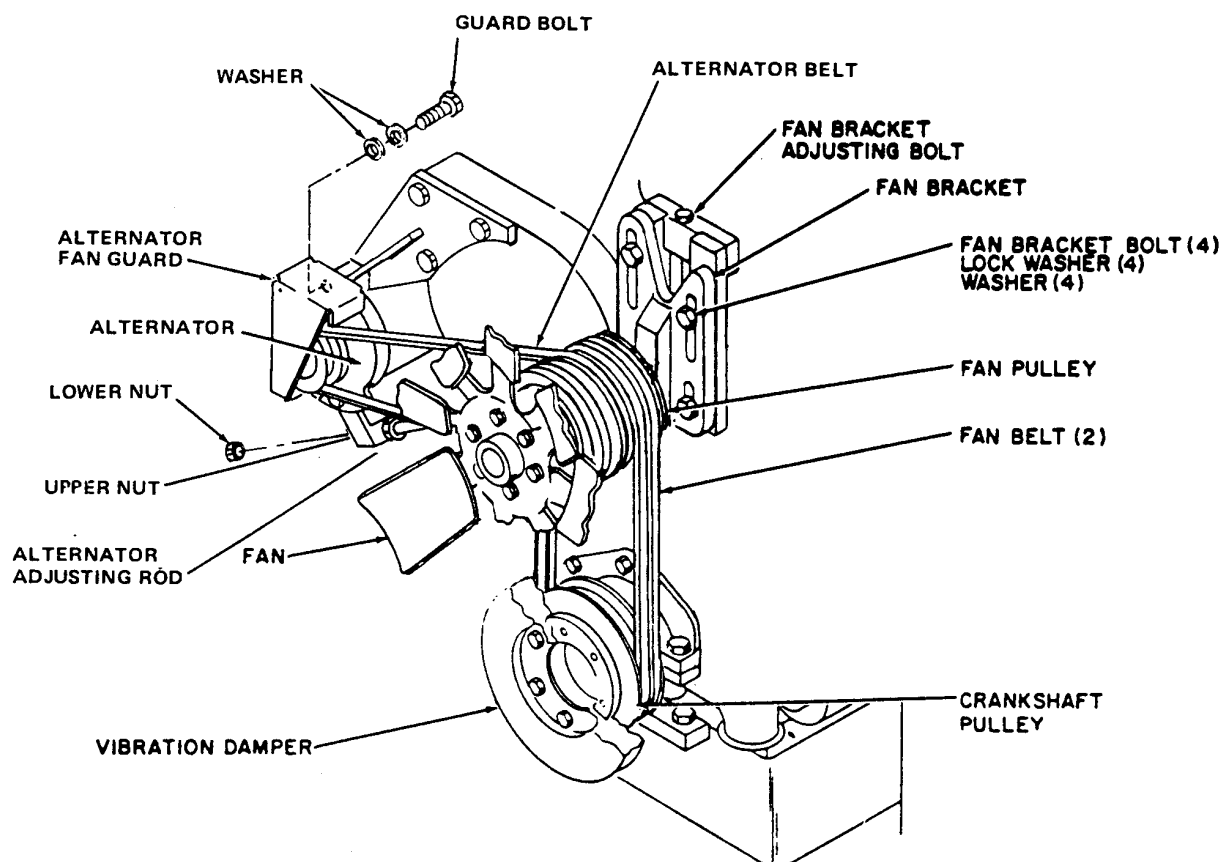

Figure 1, Typical Belt Diagram.
- Step 3: Remove the alternator fan guard (ref. fig. 1)